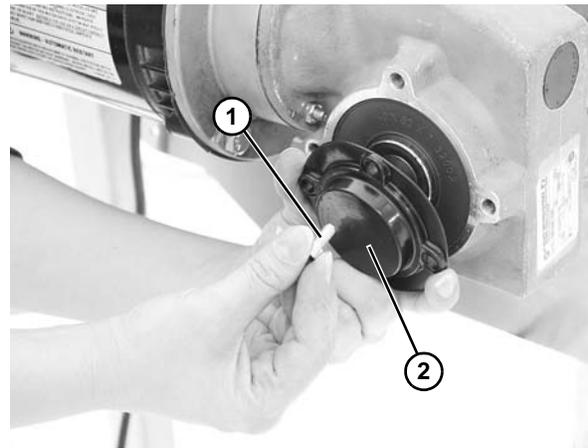

Figure 41
- Remove four socket head screws (Figure 41, item 1) securing end cover (Figure 41, item 2) to the drive motor.